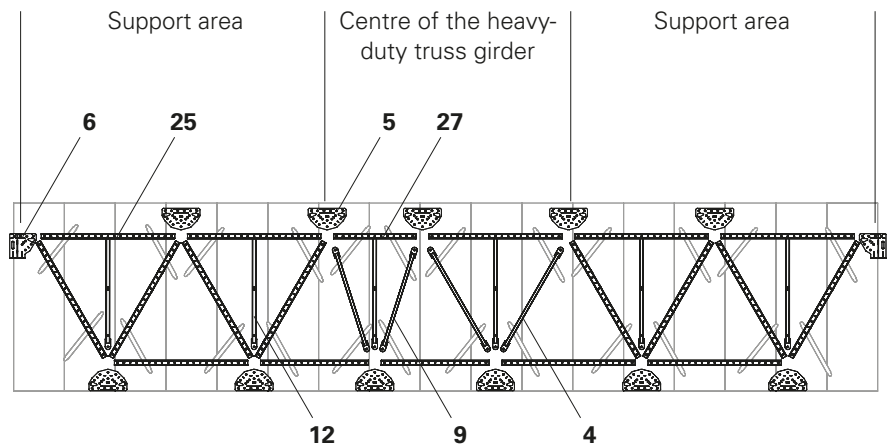

Fig. A2.06
1. Place all required components on the assembly surface at the position specified in the assembly drawings. (Fig. A2.06)